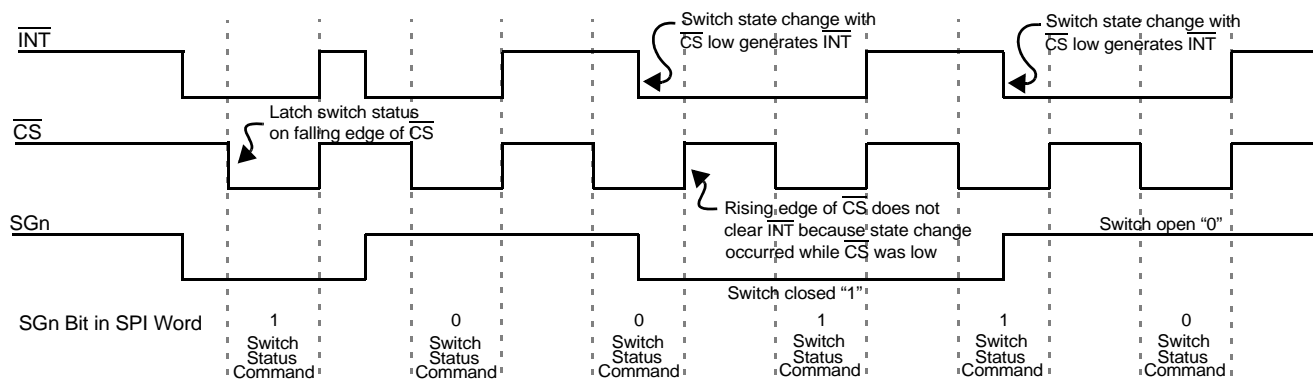

Figure 6. Normal Mode Interrupt Operation
2. INT pin is reset to logic [1], except when additional switch changes occur during \overline{CS} low. (See Figure 6.)
Figure 6 is a graphical description of the device operation in Normal mode. Switch states are latched into the input register on the falling edge of CS. The INT to the MCU is cleared on the rising edge of CS. However, INT will not clear on rising edge of CS if a switch has closed during SPI communication (CS low). This prevents switch states from being missed by the MCU.